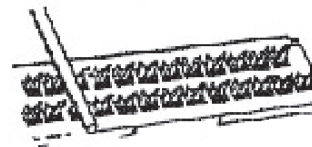

Figure 1
1. Position the conductor over the “U” contact. (Figure 1)